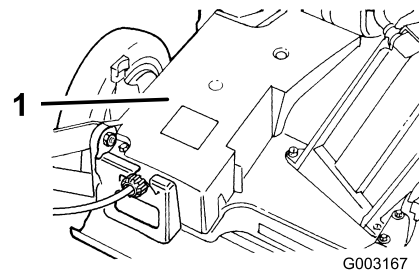

Figure 35
2. Remove the bolts that secure the belt cover (Figure 35) to the lawn mower housing.